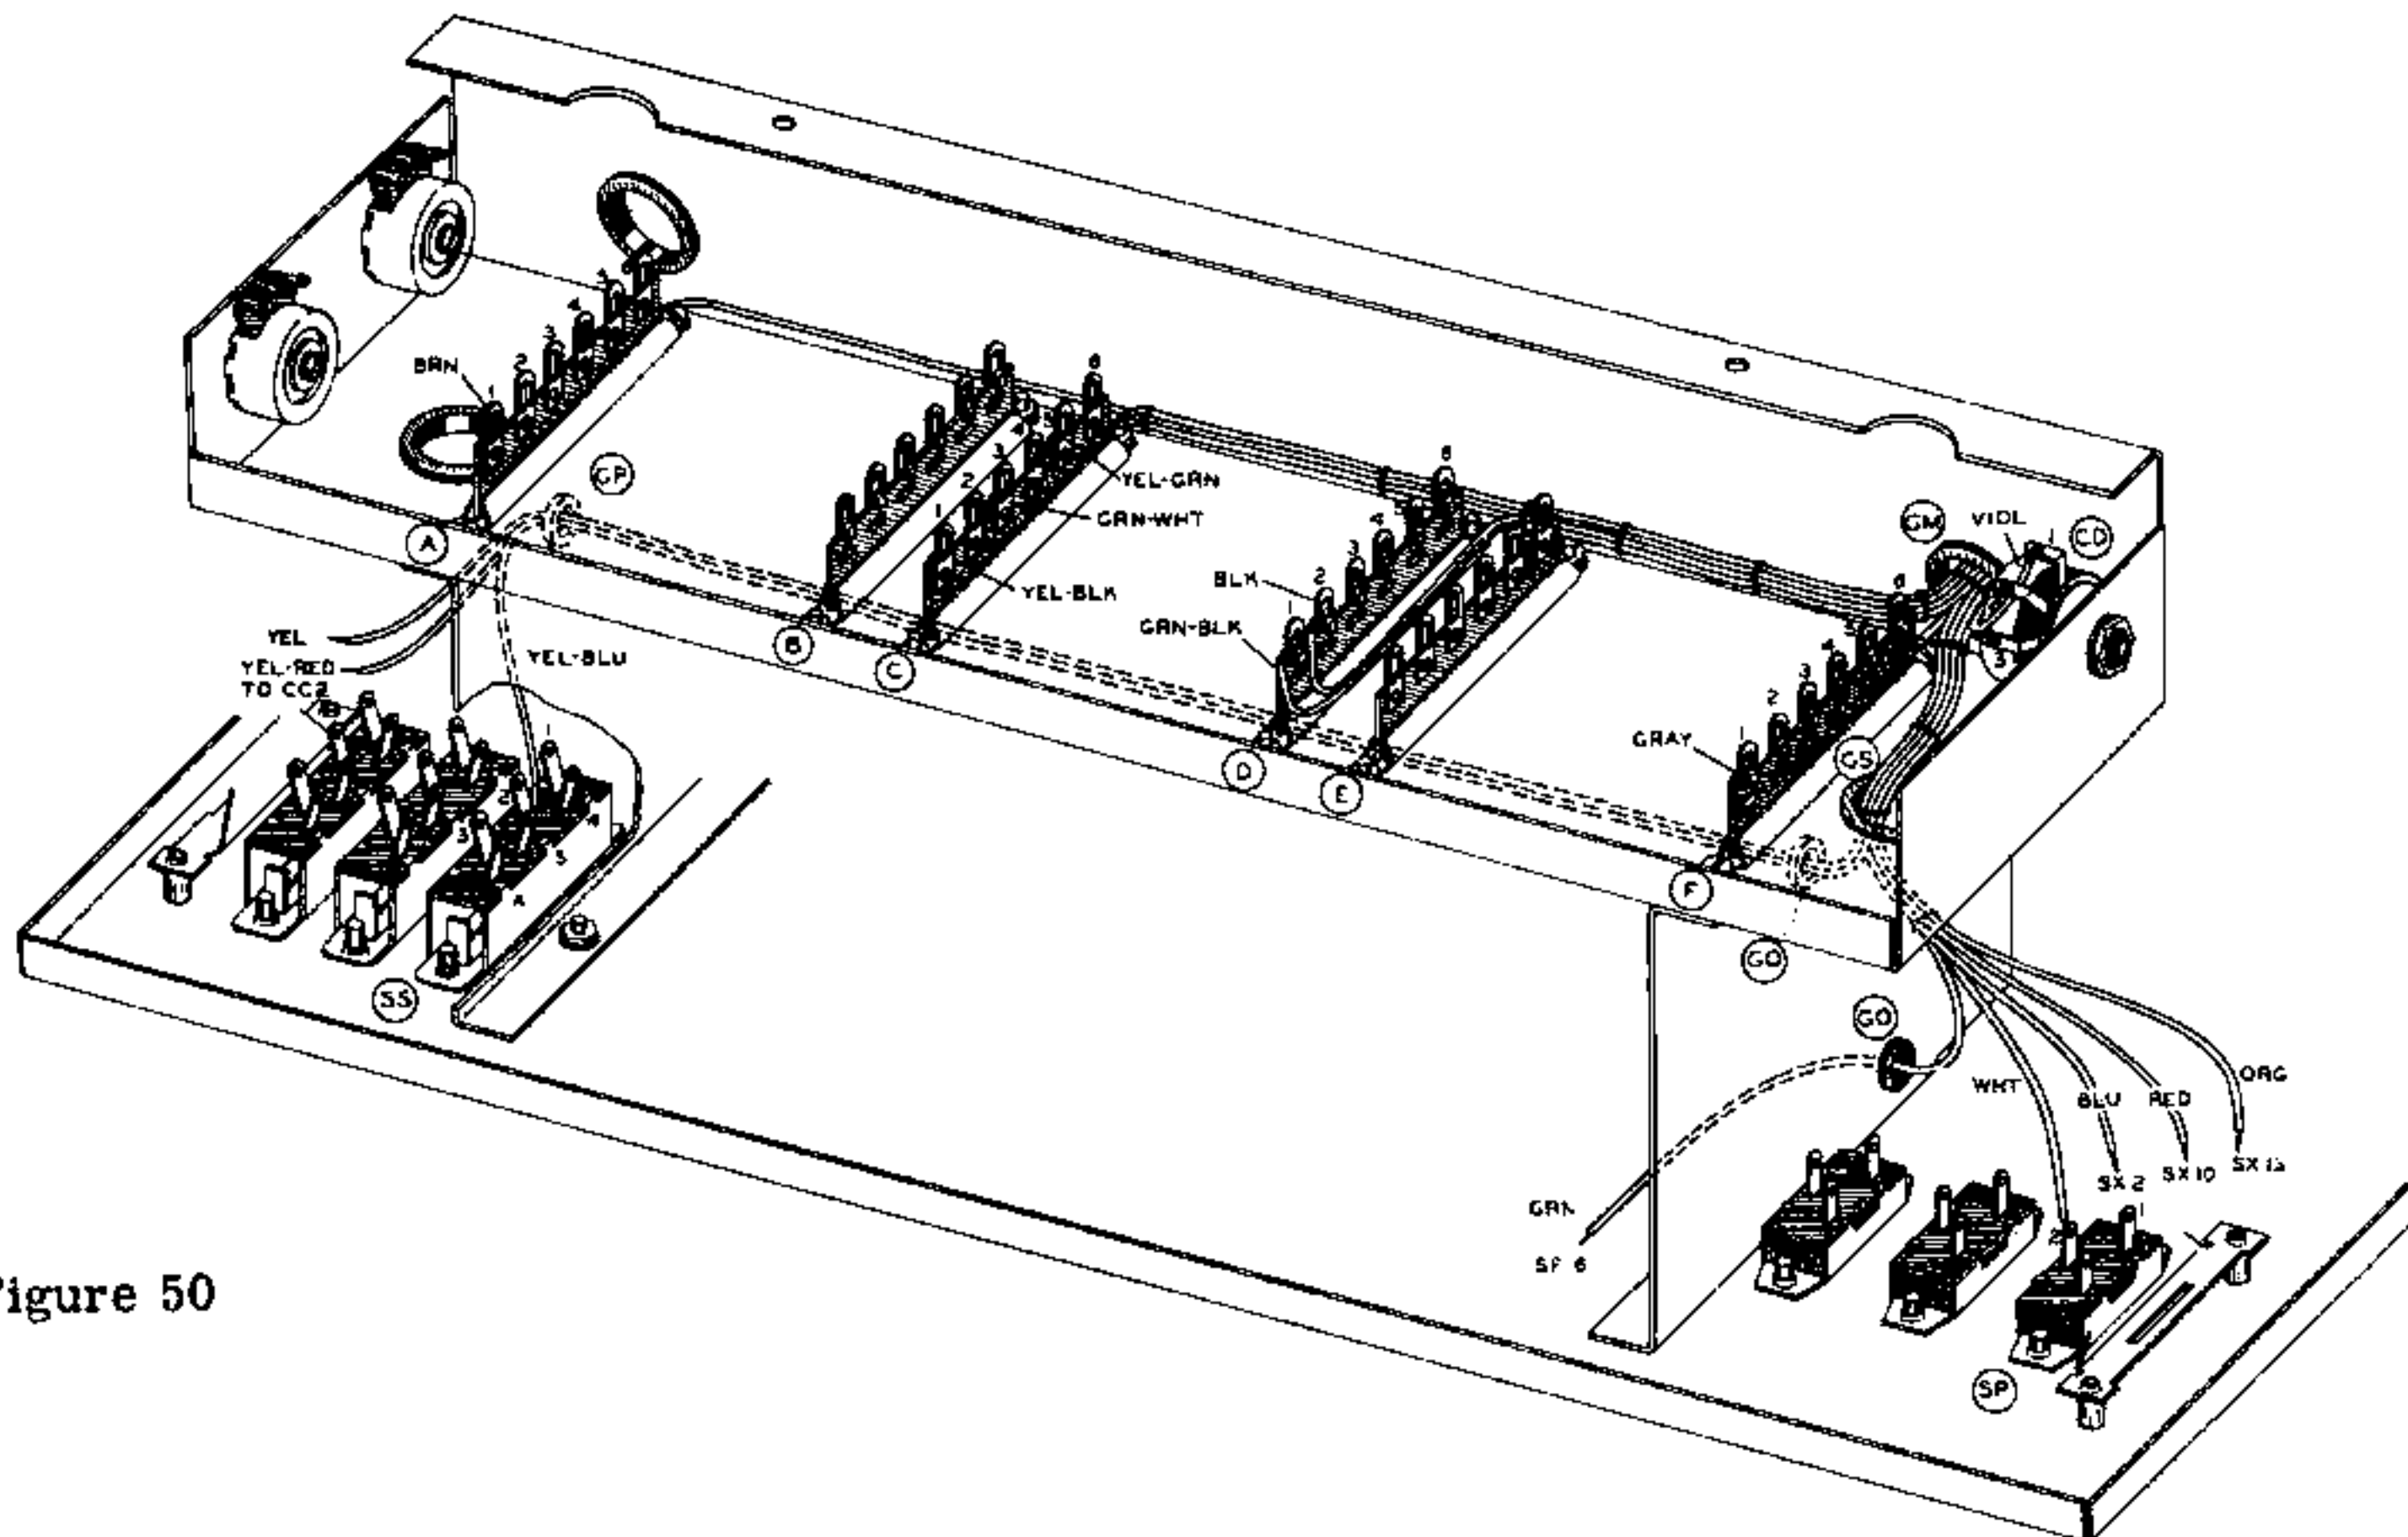

Figure 50
- ( ) Pass the remaining leads through GQ and GP. See Figures 50 and 52.